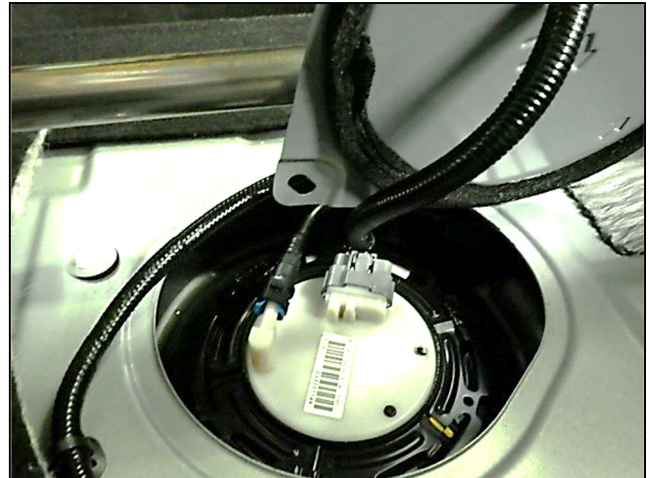

Figure 31
31. Cycle the ignition ON and OFF two (2) times to prime the fuel system.
32. Start the engine and check for fuel leaks in the area of repair shown in Figure 31.